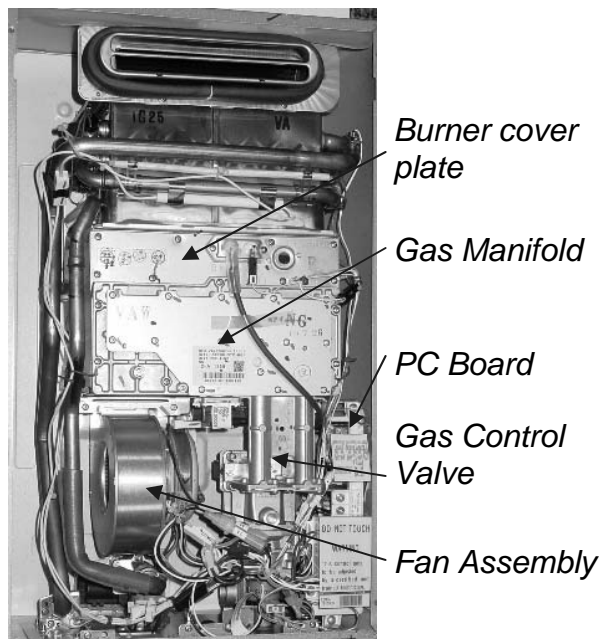

Figure 1
32. On the V53e and R63LSe, install the bracket with the surge protector (3 screws). (Figure 1)